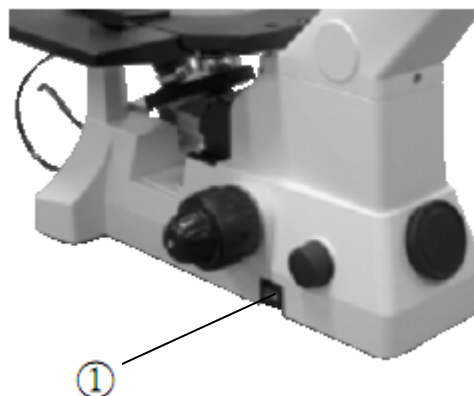

Fig .12
2-2-8 Connecting the power cord (Fig.12,13 &14)
1. Make sure that the main switch of the power supply is set to "o"(OFF) before connecting cables.(Fig.12)